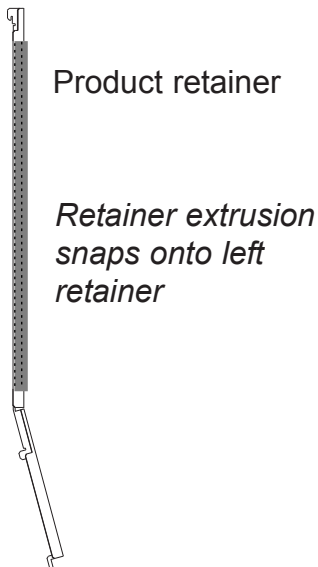

**Figure 2**
4. Attach a bottle filler to the product baffle. (See Figure 2.)